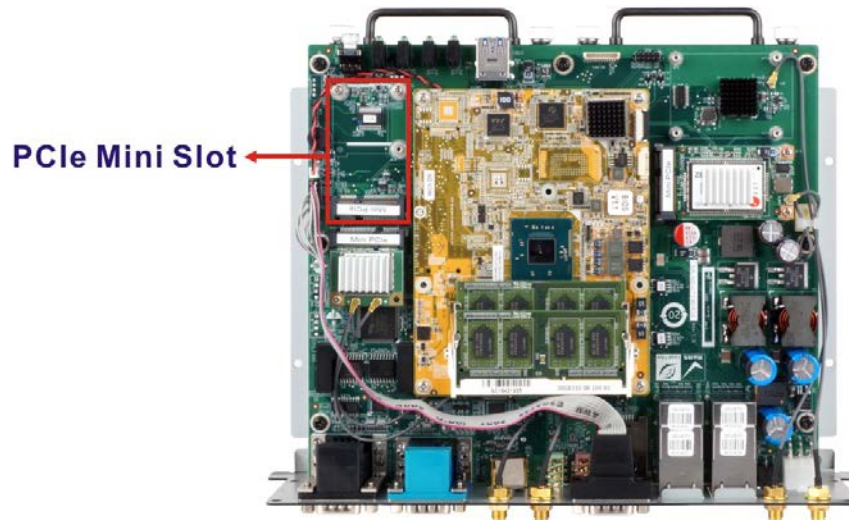

Figure 3-6: PCIe Mini Slot Location
Step 2: Locate the PCIe Mini slot (MINI-PCIE3) as shown in Figure 3-6.